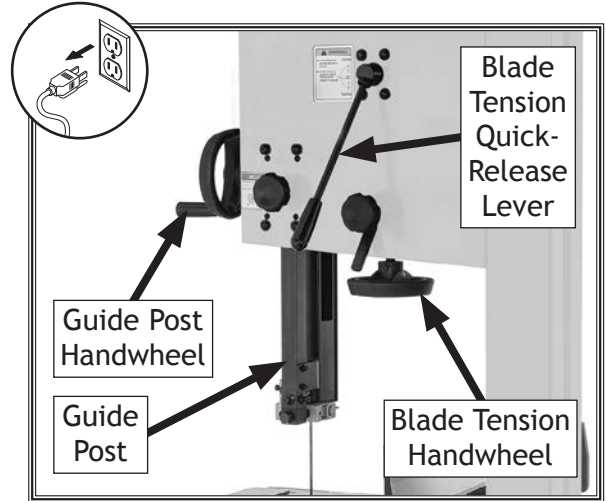
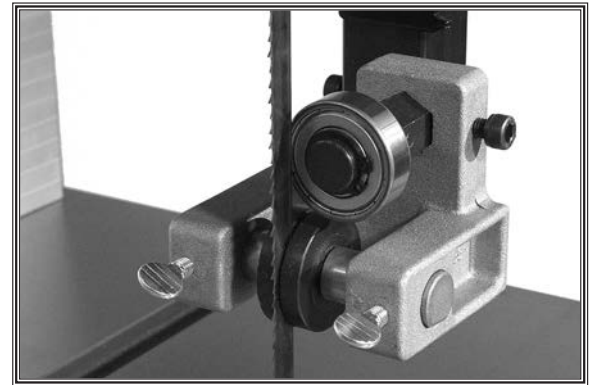

Figure 37. Blade tensioning controls.
Figure 38. Upper guide roller discs.
3. Use handwheel to fully raise guide post (see **Figure 37**), and move upper and lower support bearings and roller discs (see **Figure 38**) away from blade. Refer to **Pages 33-34** for more information.